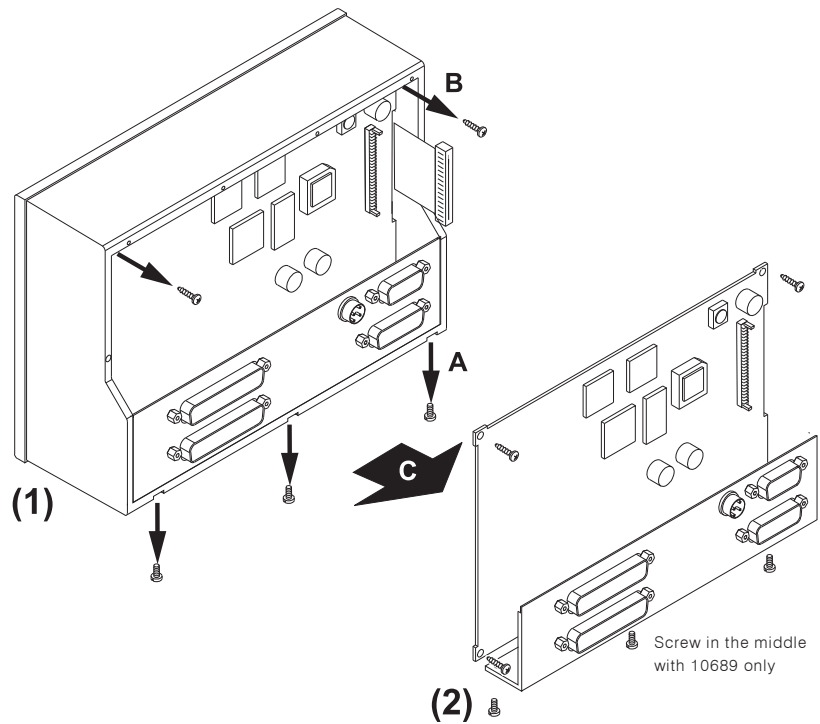

Fig. E 7-4: Unscrew and removal of connector panel and main pcb
3. Remove the three (10689) resp. two (10689-PLUS) screws at the bottom of the DigitalMonitor 8ch (A) which hold the connector panel in place. Take out the three screws (B) fixing the main pcb. Carefully remove connector panel and main pcb (C) and store them at a ESD protected place. (Fig. E 7-4)